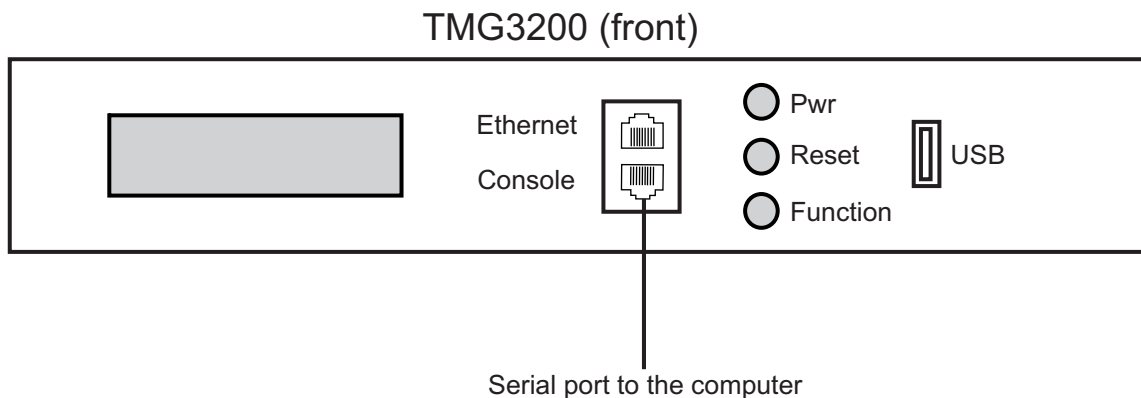

Figure 4.1 Computer to TMG3200 Serial Port Connection
1. Connect a CAT5 RJ-45 (male-male) cable (supplied with unit) between the com port of your computer and the serial port of the TMG3200 as shown in figure 4.1 on page 28. See Section 4.3 “Console pinout” on page 29 for a RJ-45 pinout description.